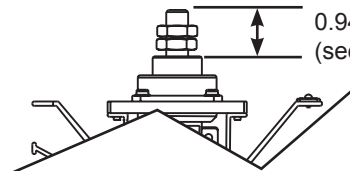

Figure 2 - Installing Stud
3. Apply Loctite® 222 to lower threads of new stud. Using double nuts, install new stud until it extends no more than an inch out of the terminal. See Figure 2.